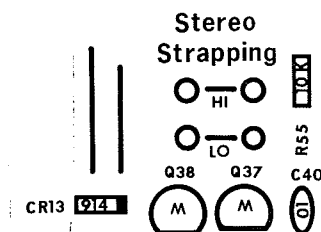

FIGURE 3-8 STEREO STRAP LOCATION
3.3.2 Stereo Strapping (Figure 3-8)
program material and the gain of the left channel to be controlled by the right channel program material. This insures that the center image of the stereo program will not shift due to processing. Both the low and high bands of the left and right channels are strapped together to track. If you wish to unstrap the gain control, remove the jumper straps shown in Figure 3-8.